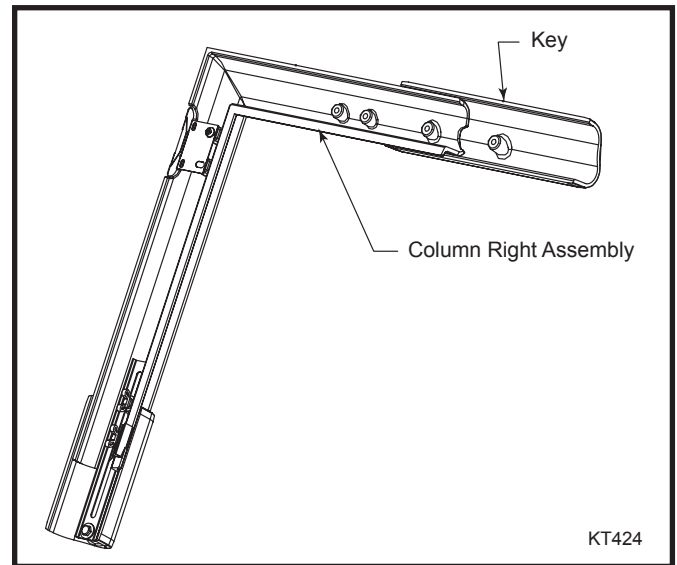

Fig. 1 Place column right assembly onto key.
1. Place the key (30001981) on your work surface with the threaded holes facing up.
2. Place the column right assembly (30002073) onto the key. (Fig. 1)